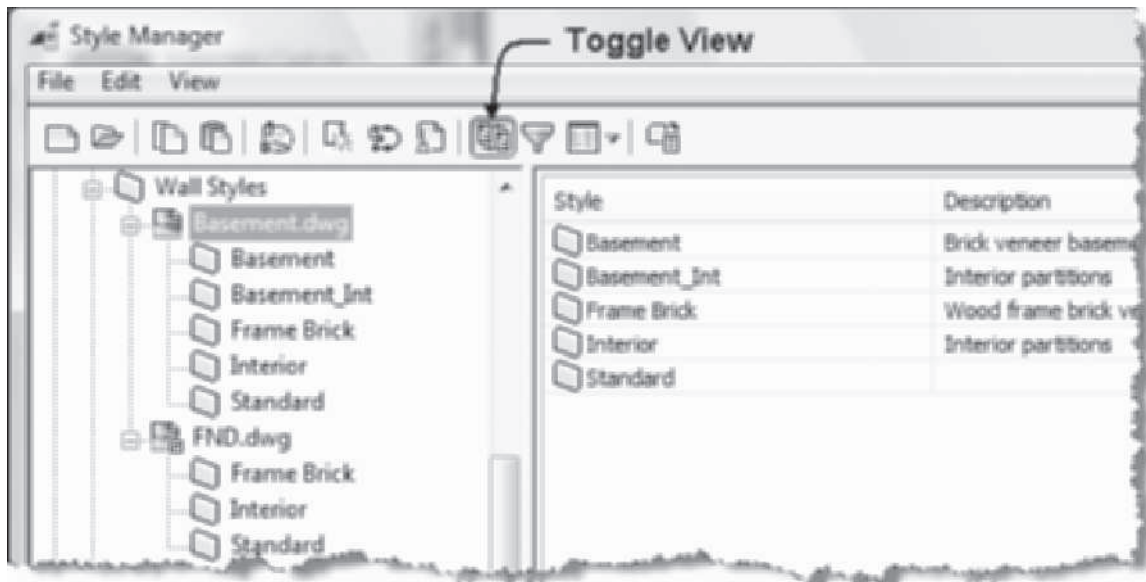

FIGURE 3.99 Style Manager
10. Verify that the *Basement.dwg* and the *FND.dwg* drawings are displayed in the left pane. Select the **Wall Styles** category for the *Basement* drawing in the left pane. Select **Toggle View** on the **Style Manager** toolbar. Expand *Basement.dwg* and *FND.dwg* drawings in the Wall Style category as shown in Figure 3.99.